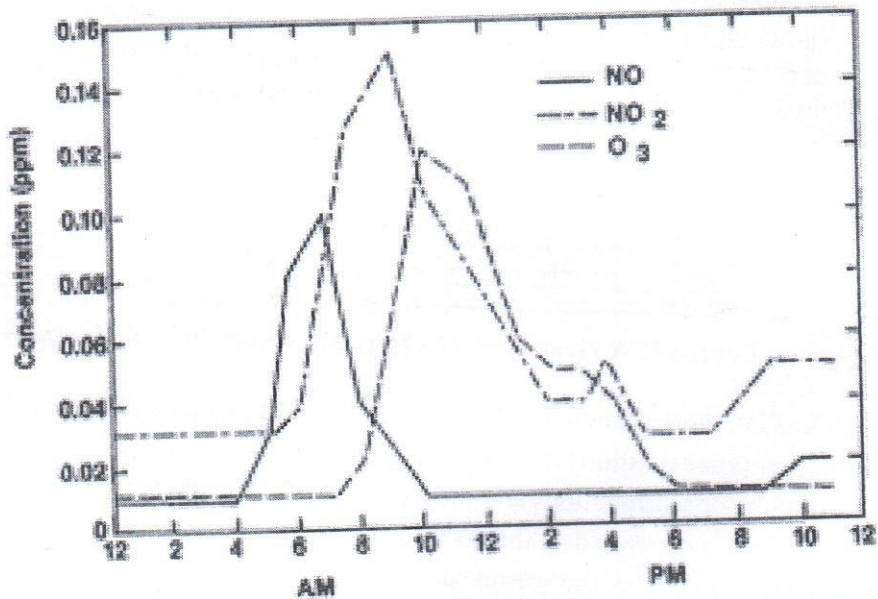

Figure 2: Diurnal variation of O_3 , NO and NO_2 concentrations
- (d) **Figure 2** shows the typical diurnal variation of O_3 , NO and NO_2 concentrations of a metro city. Explain the reason behind the changes of concentrations with time of above mentioned parameters. [5]